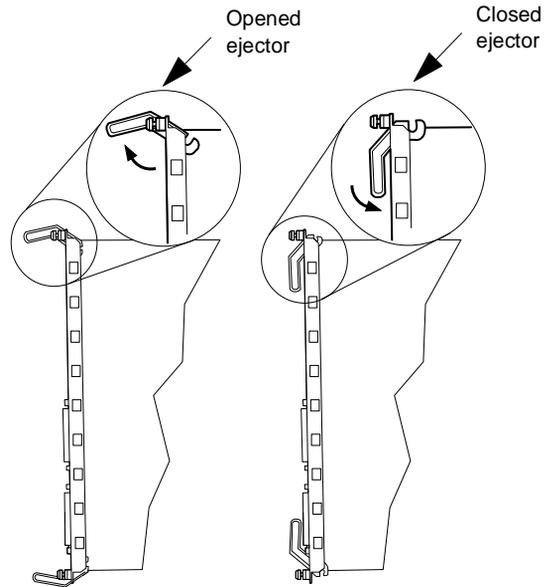

Figure 2-6 Opened and Closed Module Ejectors
- 4 Close the ejectors (Figure 2-6).